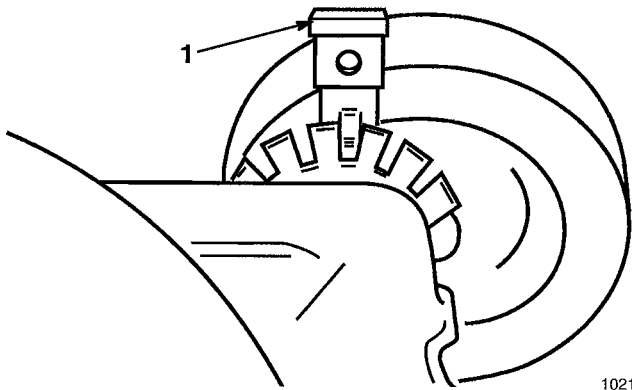

Figure 13
- To change cutting height pull adjusting lever toward wheel and move to the desired position (Fig. 13).